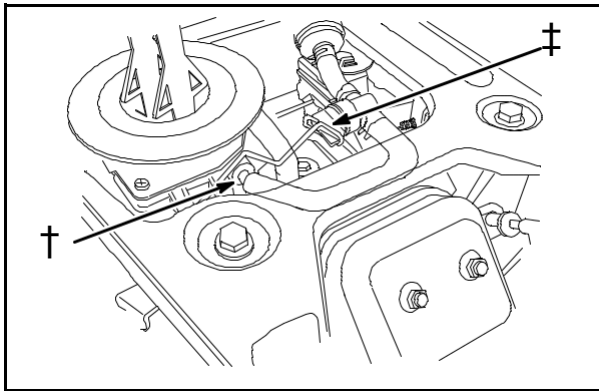

Fig. 10
Lift the fuel tank. Disconnect the fuel hose from the carburetor fuel inlet (6), **Fig. 10**. Remove the fuel valve shut-off knob from the shut-off link (7).